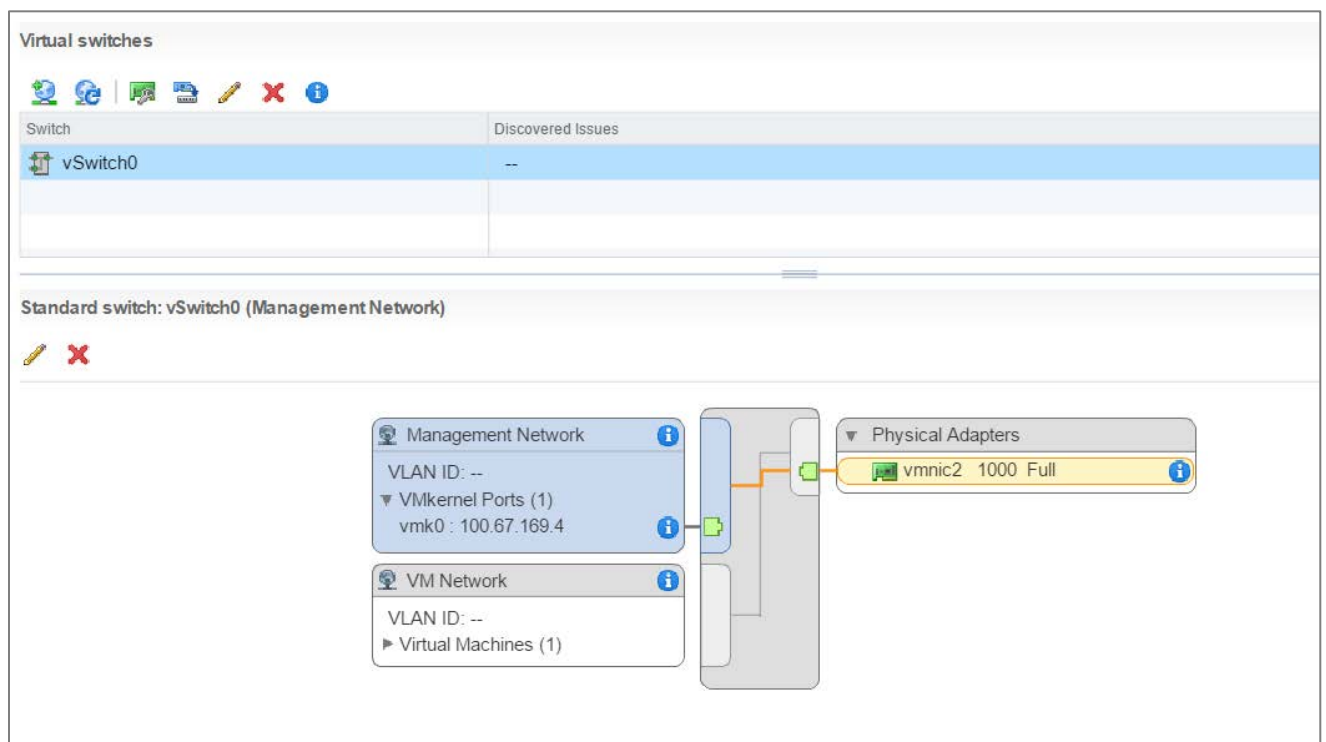

Figure 15 Example of vSphere standard switch
3. Standard switch **vSwitch0** appears in the list. Click on it to view details as shown in Figure 15.